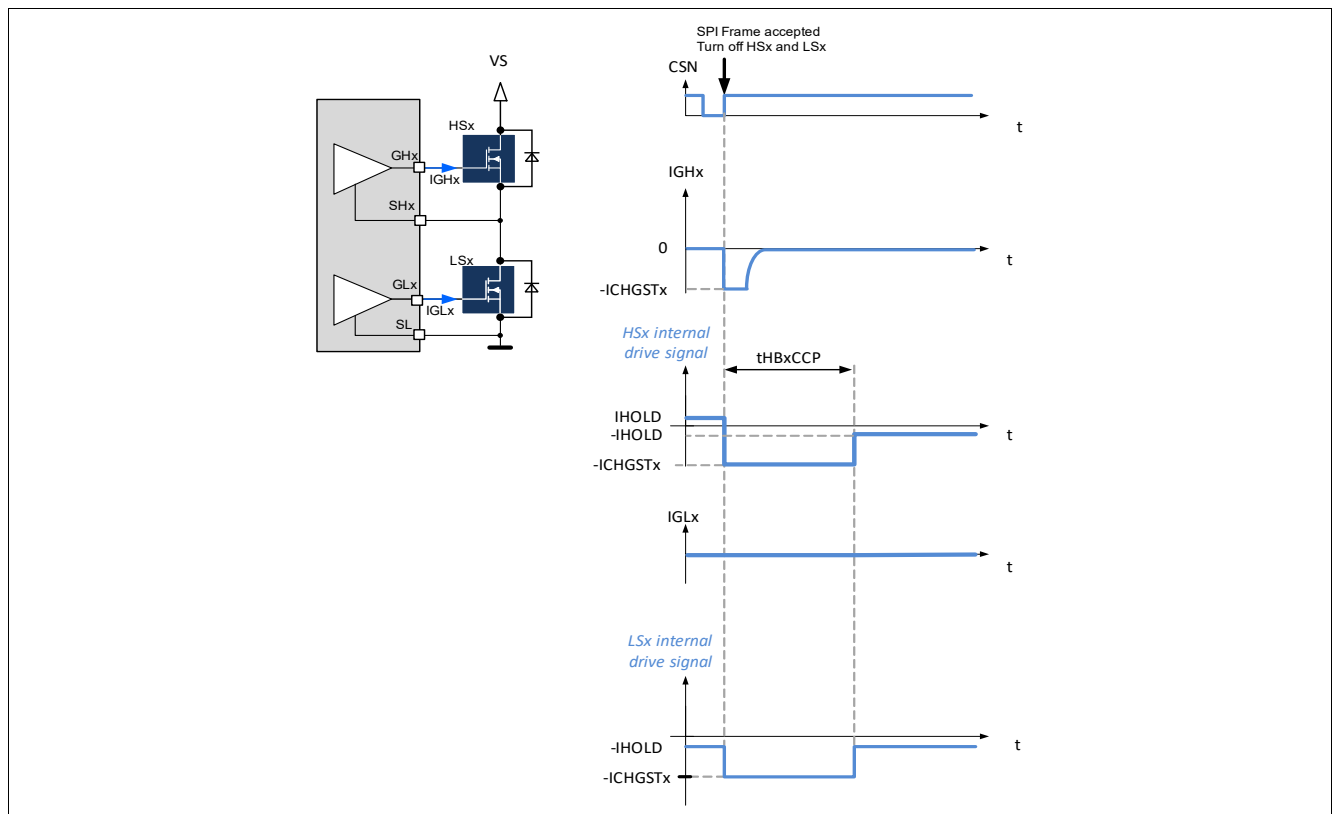

Figure 9 Turn-off of the high-side and low-side MOSFETs of a half-bridge
- the gate of HSx and LSx are discharged with the current $-I_{\text{CHGSTx}}$ for the duration $t_{\text{HBxCCP Active}}$ (Figure 9)